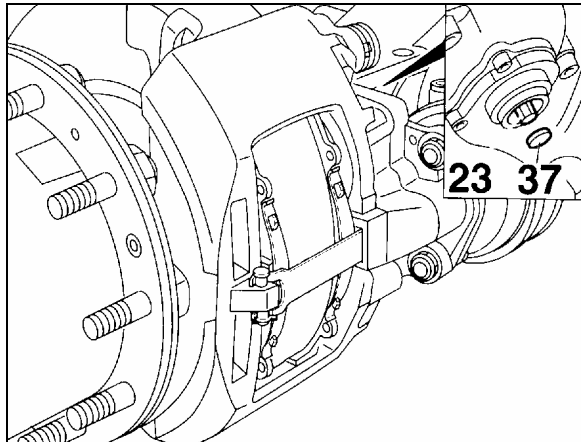

FIGURE 27: ADJUSTER PINION
- Using a box wrench (8 mm), turn the adjuster pinion (23, Fig. 27) counterclockwise about 2 - 3 clicks to increase running clearance. By operating the braking system
about 5 - 10 times (30 PSI or 2 bar), the wrench should turn clockwise in small increments if the adjuster is functioning correctly (Figs. 27 and 28).